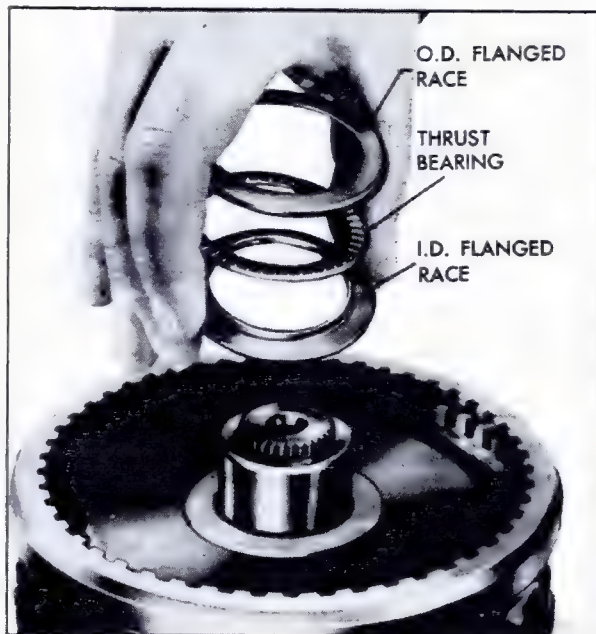

Fig. 7-183 Installing Races and Thrust Bearing on Outer Face of Rear Internal Gear
1. Install small diameter (flanged I.D.) race first, with flange facing up, Fig. 7-183.